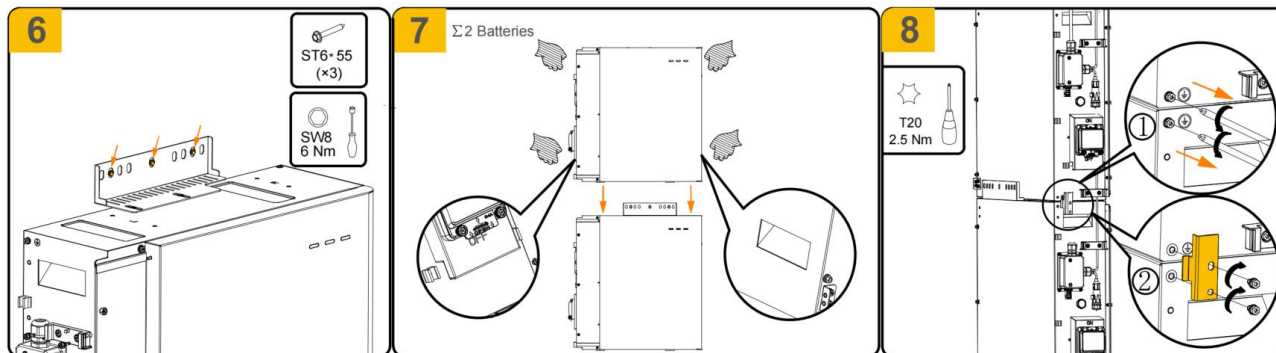

Figure 5-4 Battery Base Installation Steps Diagram
1. Take out the limit cardboard, place horizontally against the wall. Refer to 1 in Figure 5-4.
2. Attach the battery tightly to the limit cardboard. Refer to 2 in Figure 5-4.
3. Position the wall bracket at the top of the battery, aligning it with the battery's mounting holes. Mark the contact points against the wall using a marker pen. Refer to 3 in Figure 5-4.
4. Cover the top of the battery with the packaging bag. Using a hammer drill, bore holes along the previously marked positions on the wall. Drive the expansion plugs into the holes using a hammer, then remove the packaging bag. Refer to 4 in Figure 5-4.
5. Secure the wall bracket and the top of the battery using M5 screws. (tool: T20 screwdriver, torque: 2.5 Nm). Refer to 5 in Figure 5-4.
6. Screw the ST6 into the expansion nut. (tool: SW8, torque: 6 Nm). Refer to 6 in Figure 5-4.
7. Place the second battery on top of the first battery, ensuring the battery switch is closed. Refer to 7 in Figure 5-4.
8. Secure the grounding bar between the two batteries. (tool: T20 screwdriver, torque: 2.5 Nm). Refer to 8 in Figure 5-4.